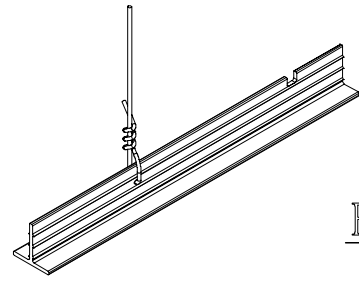

FIG. 1
4. Drill any additional hanging wire holes between 1st and 2nd ribs (approximately 9/16" down) of Main Runners. **FIG. 1**